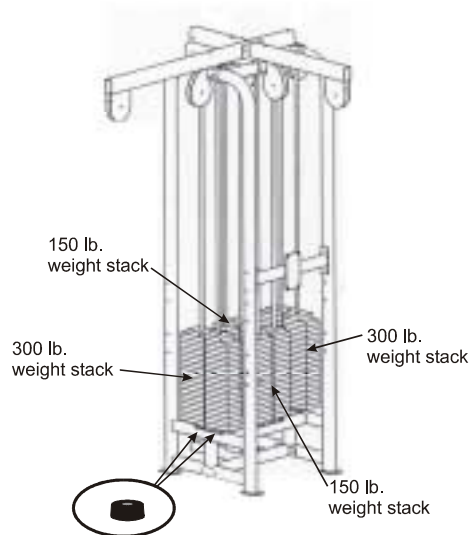

Figure 6. Mount rubber bumpers and the weight stacks.
- C. **Prepare the weight stack.** Slide the guide rods (2) through the weight stacks (1) as shown below. Place rubber bumpers (3) on the bottoms of each guide rod. Make sure the pull pin (4) is in the bottom weight plate.
- E. **Set the weight stacks onto the machine.** Using a piano dolly, lift the weight stacks over the bottom plate and set the stacks onto the rubber bumpers with the plate numbers facing outward. The 300 lb weight stacks need to be facing the "sides" of the cells (where the benches will be attached- see Figure 6). The 190 lb weight stacks will need to be facing the "outsides" and "insides" of the cells (where the tricep pulley and adjustable pulley will be attached- see Figure 6). Make sure the pull pins are facing outward.
Hardware Figure 6. Weight stack rubber bumpers.